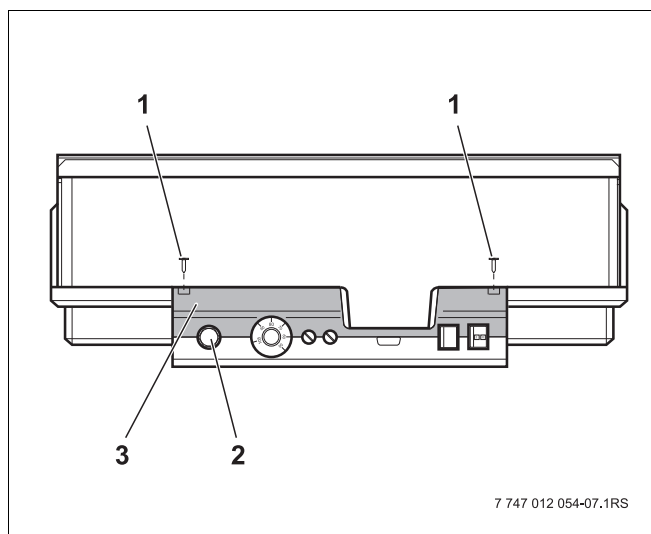

Fig. 1 Logamatic 4... control unit
- The high limit safety cut-out (STB) (→ Fig. 1, [2]) must be removed from the casing to select the required temperature.
- Undo both screws (→ Fig. 1, [1]) to remove the high limit safety cut-out.
- Remove lid (→ Fig. 1, [3]).
- Remove protective cap (→ Fig. 1, [2]).